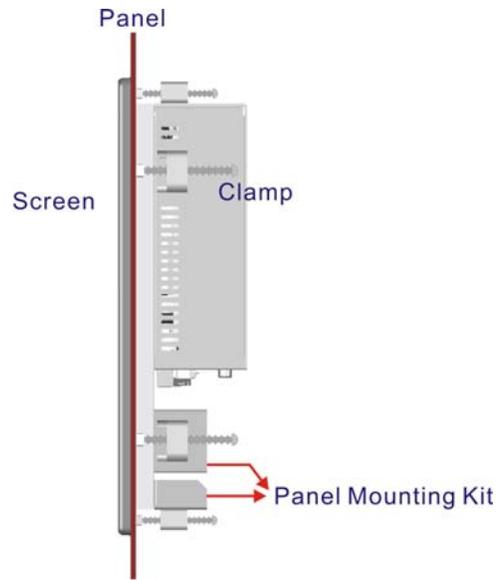

Figure 4-28: Tighten the Panel Mounting Clamp Screws
- Step 6:** Tighten the screws that pass through the panel mounting clamps until the plastic caps at the front of all the screws are firmly secured to the panel (**Figure 4-28**).